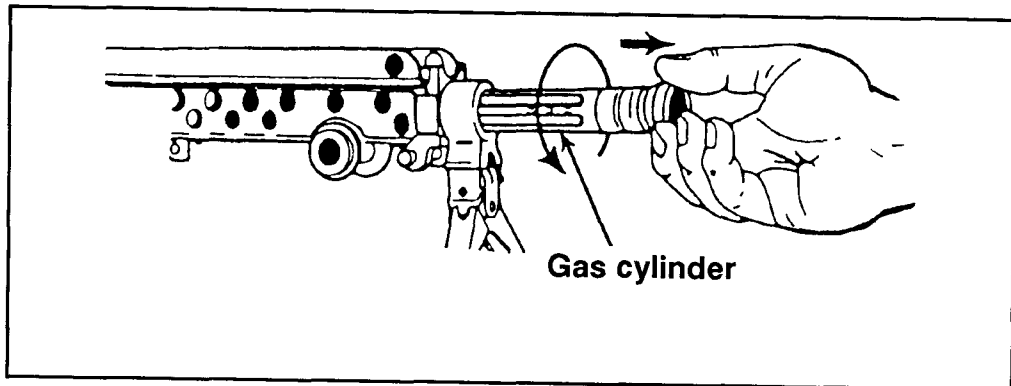

Figure 2-10. Removing the gas cylinder group.
f. **Removing the Gas Cylinder Group.** To remove the gas cylinder from the receiver (Figure 2-10), grasp the gas cylinder at the top of the bipod legs, turn it to the left or right to release the locking spring, and then pull it away from receiver.